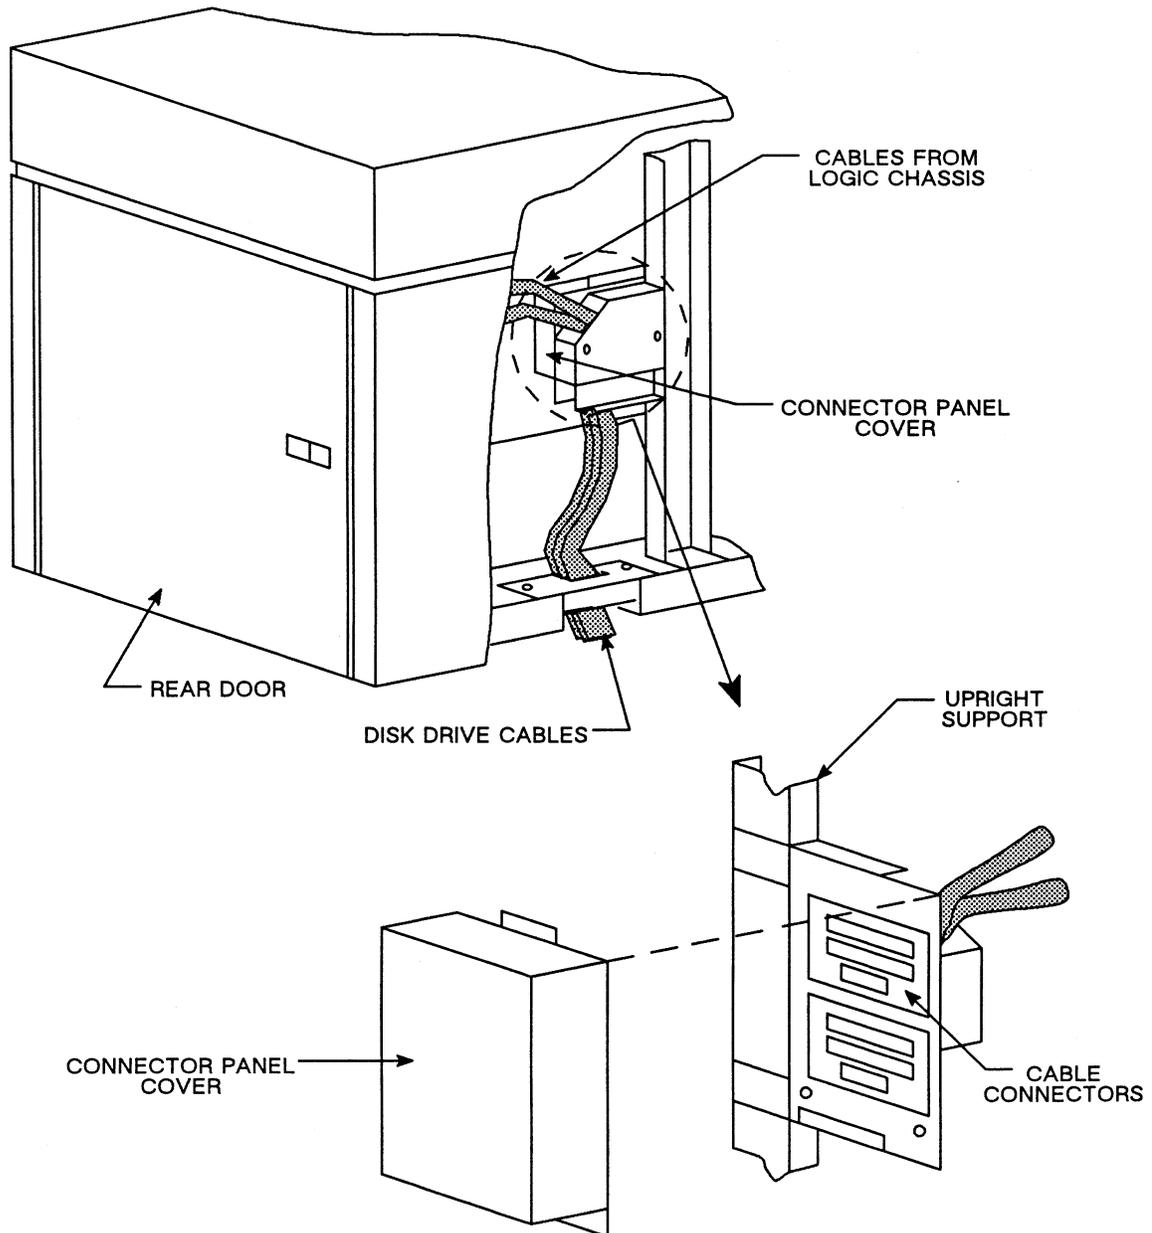

Figure 7-17. 300MB Disk Drive Connector Panel and Cables
7. Remove the disk terminator from the peripherals cabinet I/O panel connector, Disk Common Out. For drive 1 connect the shielded connector of the 60-pin command cable (Item 5) to the CADDServer peripherals cabinet I/O panel at Disk Common Out (see Figure 7-17). Be sure there is a proper pin 1-to-pin 1 connection. Connect the unshielded end of the command cable to the appropriate connector on the 300MB disk drive. Install the terminator inside the 300MB disk drive.
Figure 7-17 shows the connector panel and cables for the 300MB removable disk drive.